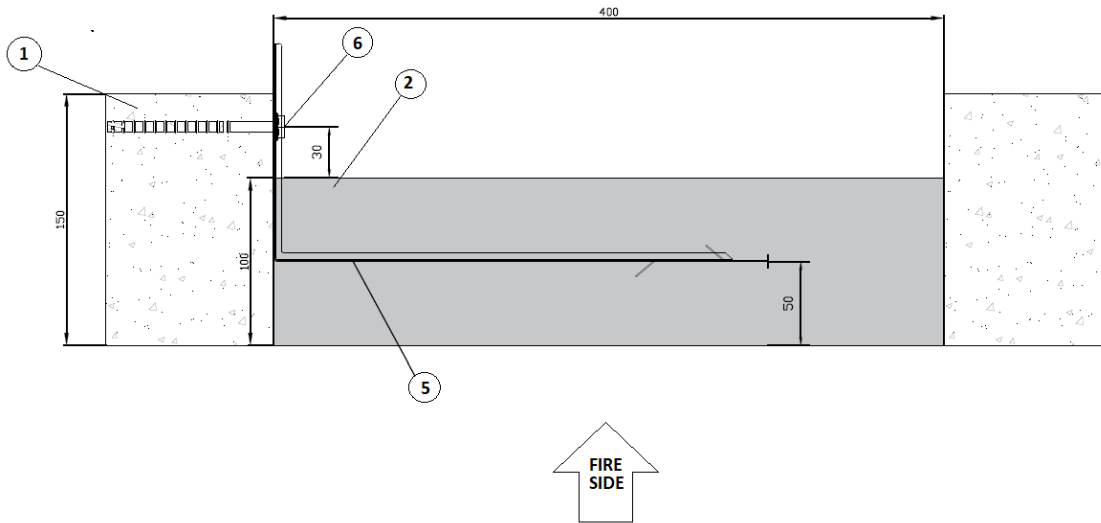

FIGURE 2
5. BRACKET: 0.7 mm thick, galvanized steel or stainless-steel, L-brackets (ref: Bracket CFS VB/NVB S, M, or L Galvanized Steel or Stainless Steel) with 30 mm width and 130 mm height are used to install the fire joint seal for joint widths up to 400 mm as shown in Figure 2. A min. 62% penetration into the fire joint seal must be maintained. Min. two brackets with max. oc distance of 940 mm and 130 mm from the ends are required for insulation board length of up to 1200 mm. One bracket can be used on an insulation board length of 250 mm.